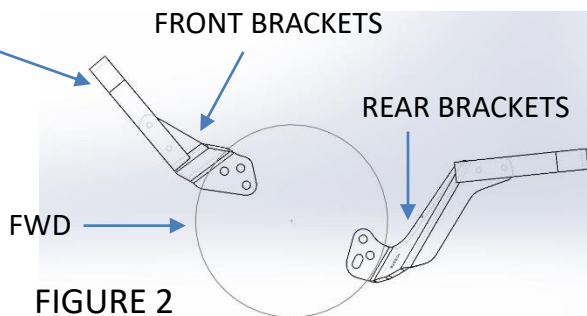

FIGURE 2
- C. See figure 2 for Front and Rear Locations
- B. Use the M20 bolts provided in the kit and the flat washers previously removed to install bracket 105574 to front side of axle as shown in Figure 2.